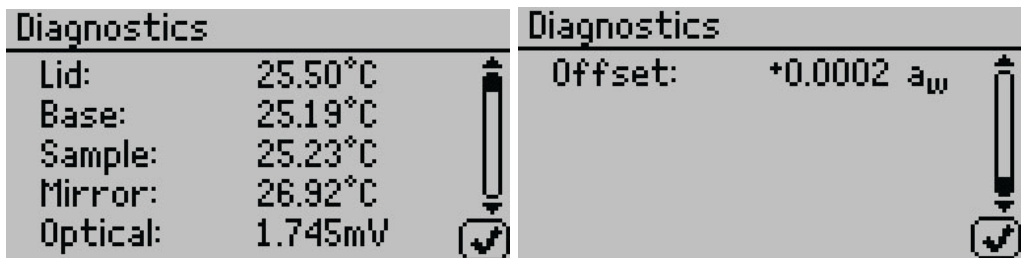

Figure 42 Chilled-mirror dew point sensor Diagnostics screen
- **Diagnostics.** Select to view information regarding pertinent sensors (Figure 42).
For the chilled-mirror dew point sensor, the Diagnostics option provides lid, base, sample and mirror temperatures, optical voltage, and the user offset. Figure 42 shows typical values for the sensors.